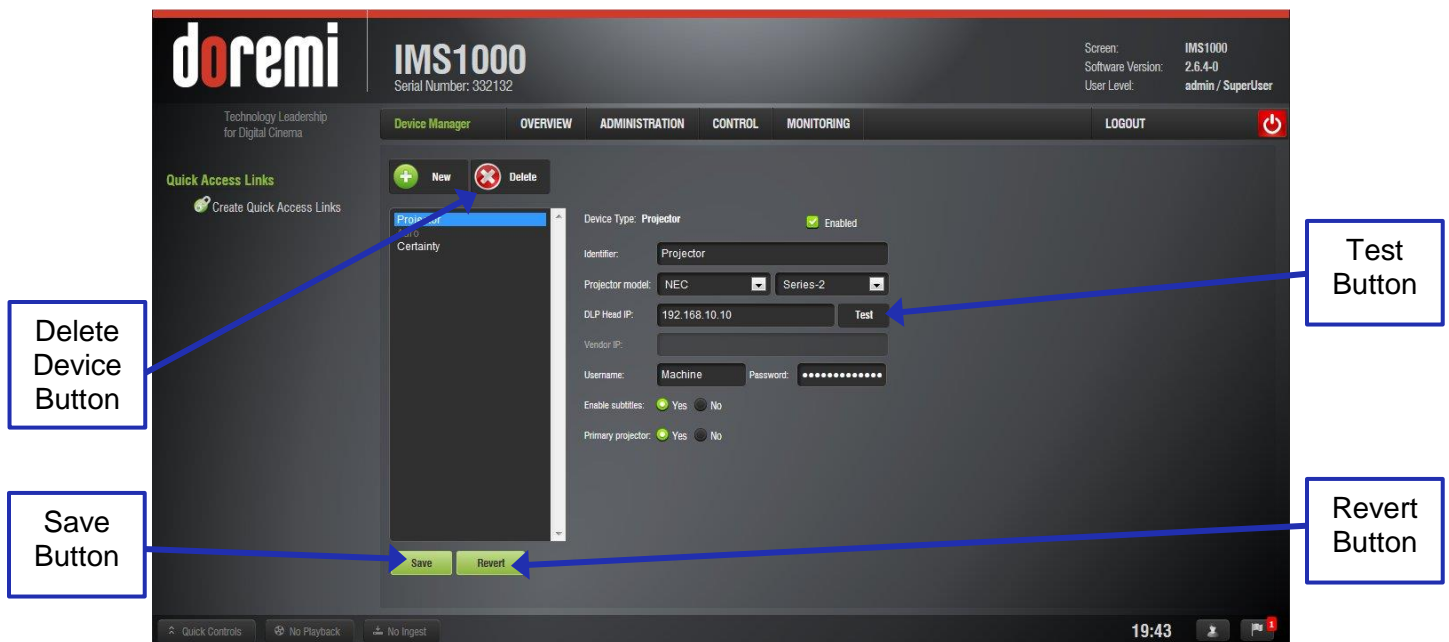

Figure 129: Device Manager GUI – Projector Fields Configuration
The main configuration window will be updated to reflect the addition of the Projector device. The user will be able to enter the projector parameters (Figure 129):
- Enter the IP address. The Test button will allow you to test the IP connection prior to saving (Figure 129).
- Click the Save button to record the settings (Figure 129). A password confirmation page will appear. Enter the password to save and record the settings. SuperUser privileges are necessary to confirm the changes. If the user is already logged in with SuperUser privileges, the password confirmation window will not appear. Clicking the Revert button prior to saving will delete the unsaved information (Figure 129).
- Click the Delete Device button (Figure 129).
- Click the Save button to record the settings. A window asking for the password will appear. Enter the password to save the settings and proceed. Clicking the Revert button prior to saving will delete the unsaved information (Figure 129).
- To remove the eCNA device, select it in the Device Manager GUI and click the Delete Device button (Figure 129).
- Click the Save button to record the settings. A window will appear asking for a password. Enter the password to proceed. Clicking the Revert button prior to saving will delete the unsaved information (Figure 129).
- Click the Delete button (Figure 129).
- Click the Save button to record the settings. A window will appear asking for a password. Enter the password to proceed. SuperUser privileges are necessary to confirm the changes. If the user is already logged in with SuperUser privileges, the password confirmation window will not appear. Clicking the Revert button prior to saving will delete the unsaved information (Figure 129).
- To complete the configuration, click the Save button (Figure 129). Enter the appropriate password and click Ok. Clicking the Revert button prior to saving will delete the unsaved information (Figure 129).
- To complete the configuration, click the Save button (Figure 129). The user will be asked for a password. Enter the appropriate password and press Ok. Clicking the Revert button prior to saving will delete the unsaved information (Figure 129).